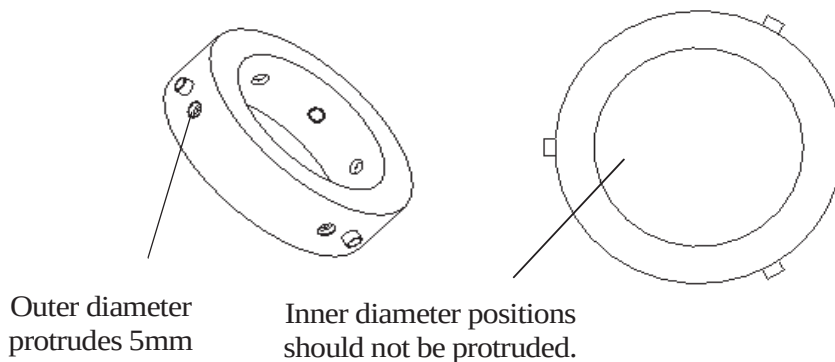

Figure 33 Fix steel
9.6.2.1 Fix 3 stainless steel 6×16 straight pins on the bushing (120° equally divided), and protrude the outer diameter of the bushing about 5mm, and the inner diameter positions should not be protruded. (Figure 33)